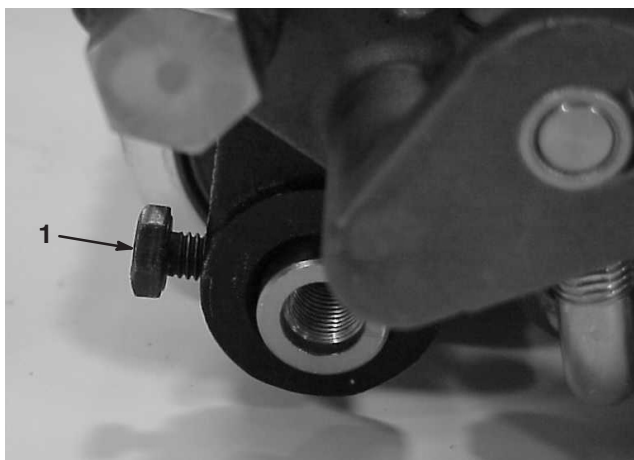

Figure 16
28. Insert roller shaft into left adjuster arm and loosely secure with bolt (Fig. 16).
36. Center roller between adjuster arms and tighten mounting bolts (Fig. 16).